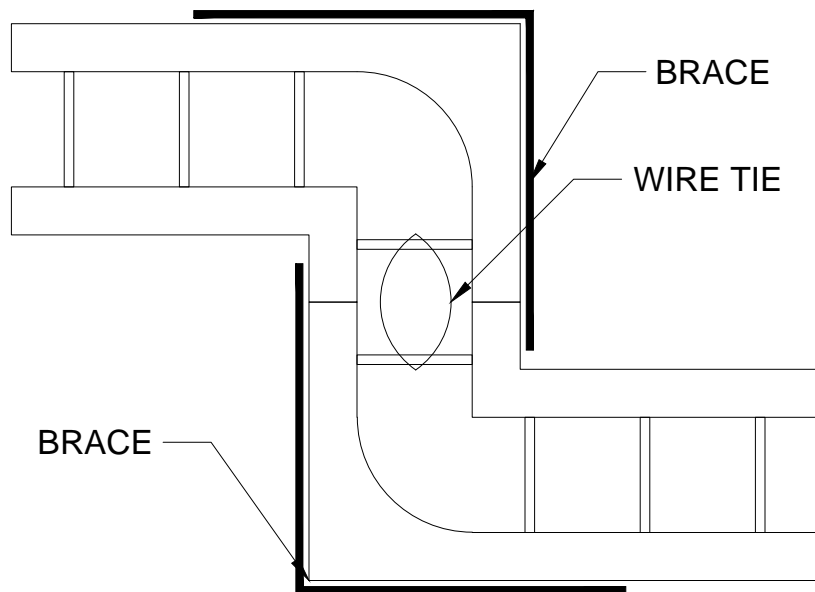

Figure 1 – Short corner made of 90° forms with a stack joint
- Install the first course so that the short legs on both blocks are adjoining each other as illustrated in Figure 1 below.